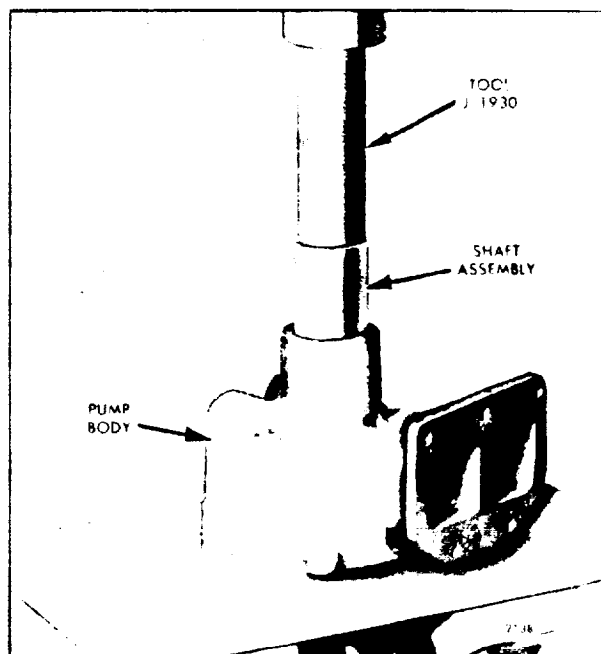

Fig. 5 Pressing Shaft Assembly into Water Pump
1. Use installer J 1930 to apply pressure to the outer race of the bearing as shown in Fig. 5 and press the shaft and bearing assembly into the pump body until the outer race of the bearing is flush with the outer face of the body.